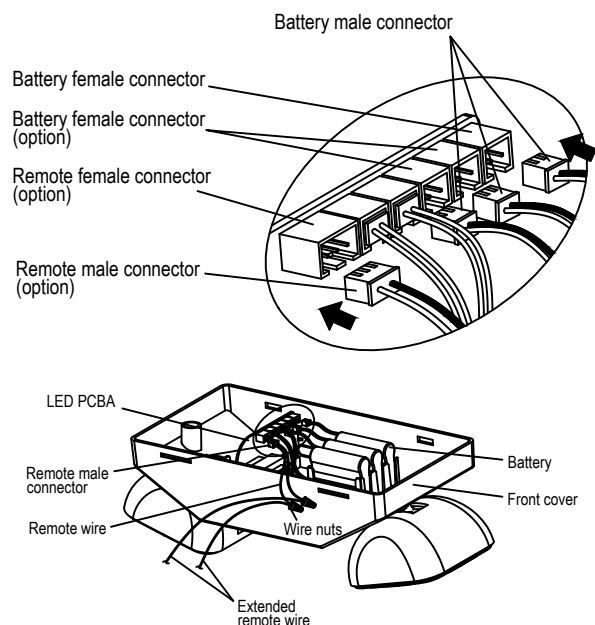

Fig 5
7. Plug battery male connector into battery female connector on PCBA.(see Fig 5).
Connecting Remote head (option) (see Fig 5)